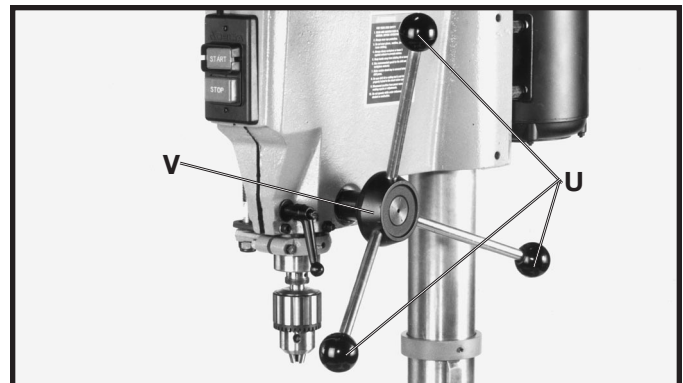

Fig. 17
14. Thread the three pinion shaft handles (U) into the three holes located in the pinion shaft hub (V), as shown in Fig. 17.